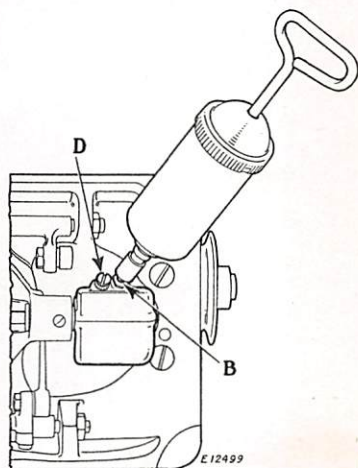

Fig.5.
To supply grease to the lower gear case (Fig.5), lay the machine back on the table, remove the level hole screw (D, Fig.5) and force the lubricant into the Alemite fitting (B, Fig.5) until it emerges from the level hole at (D), then replace the screw (D).